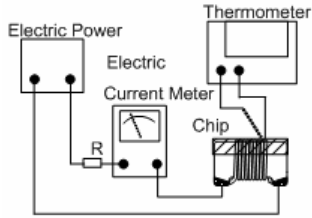

Fig. 6.3.5-1
- d. Definition of Rated Current ( $I_r$ ):  $I_r$  is direct electric current as chip surface temperature rose just  $15\text{ }^{\circ}\text{C}$  against chip initial surface temperature ( $T_a$ ) (see Fig. 6.3.5-2).